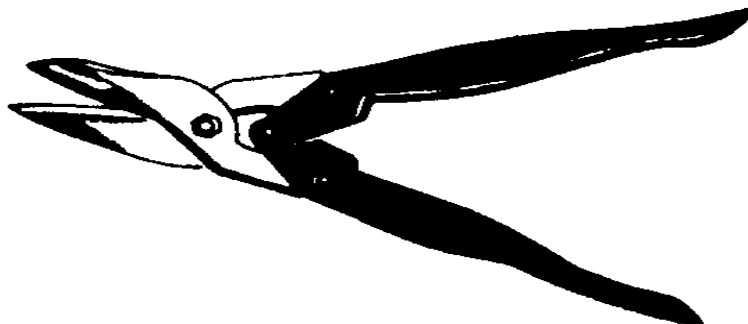

Figure 7, Aviation snips.
- **Aviation snips:** The aviation snips that you will be using are shown in Figure 7. They are available in left or right hand cut. This means two pairs of snips are required, one for cutting to the left and one for cutting to the right. It does not mean they are made for left and right-handed people, as in the case of straight snips. The blades of aviation snips are designed to cut small holes and irregular outlines in heat-treated aluminum alloy or stainless steel. The handles are of the compound lever type and can cut mild steel as thick as 16-gauge. You will find these snips very useful in the field for cutting any shape of hole in ducts, panels, and similar jobs. They are usually color coded in keeping with industry standards. Green cuts to the right. Red cuts to the left. Yellow cuts straight.